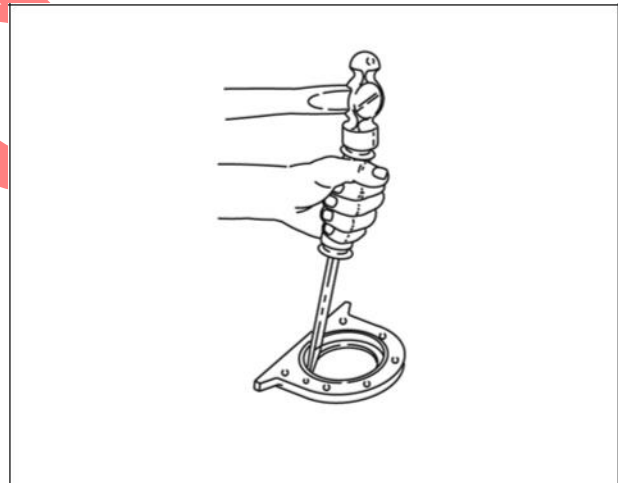

Figure 4
1. Remove oil seal (Figure 4).